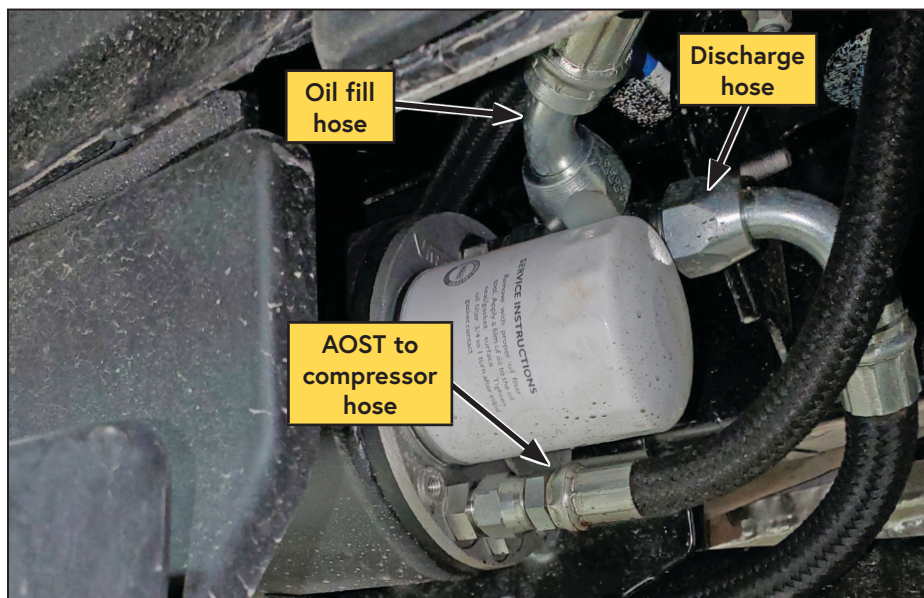

Figure 29 — Routing the hoses
- Route the hose down toward the firewall; pass the hose between the inner fender and the body mount and connect it to the Tee on the AOST (Figure 29).